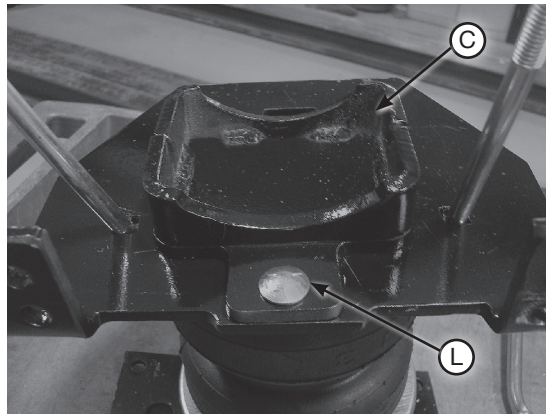

fig. D.11
- Install the lower bracket cup (C) onto the lower bracket main plate using the 5/16"-18 x 3/4" carriage bolt (L) (Fig. D.11). Cap with M8 flat washer (O) and 5/16"-18 nylon lock nut (Q) (Fig. D.12). Snug bolt down but leave loose enough for bracket to move freely in slot.